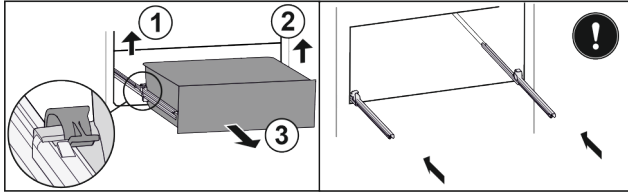

Fig. 29*
- Lift the left clamp and simultaneously pull the drawer on the left forwards Fig. 29 (1).*
- Lift the right clamp and simultaneously pull the drawer on the right forwards Fig. 29 (2).*
- Take out the drawer to the front Fig. 29 (3).*